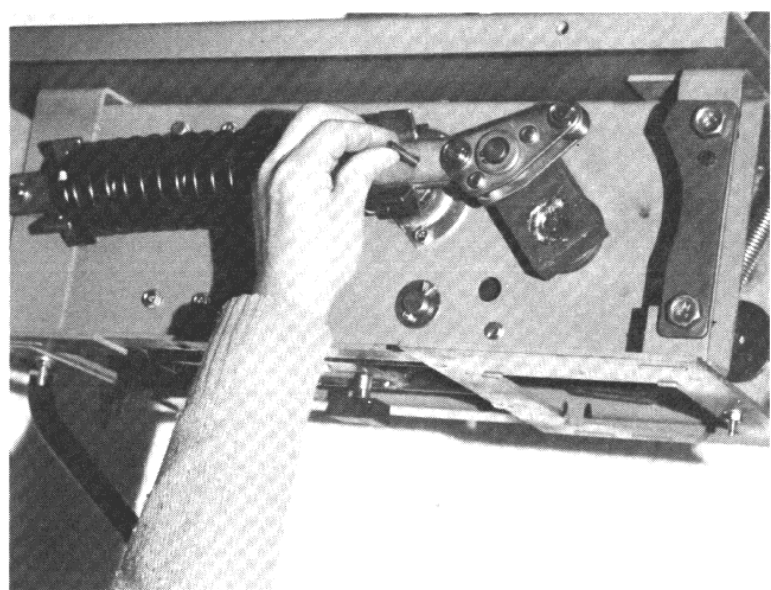

Figure 10
3. Continuing to put a slight pressure on the charging handles, insert a 6mm or 10-32 diameter screw or pin through the hole as shown. Repeat for lower spring. (Figure 10). If the pin does not have the spring forces applied to it after installation, it has been performed **INCORRECTLY!** The procedure must then be performed again by fully cycling the breaker through a close/open operation.